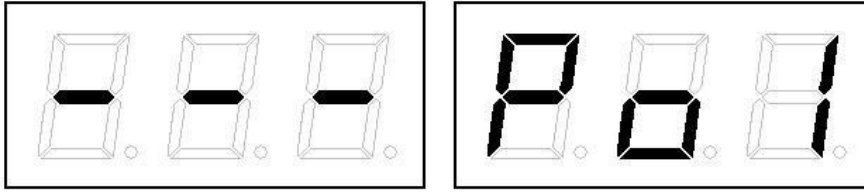

Figure 3.7 Inputting the position of balance weight W1
- Press the **【F】** + **【ALU】** Key, If the outer unbalance value is not 0, the machine will enter the balance weight split hidden mode. The information displayed by the machine is shown in Figure 3.7.